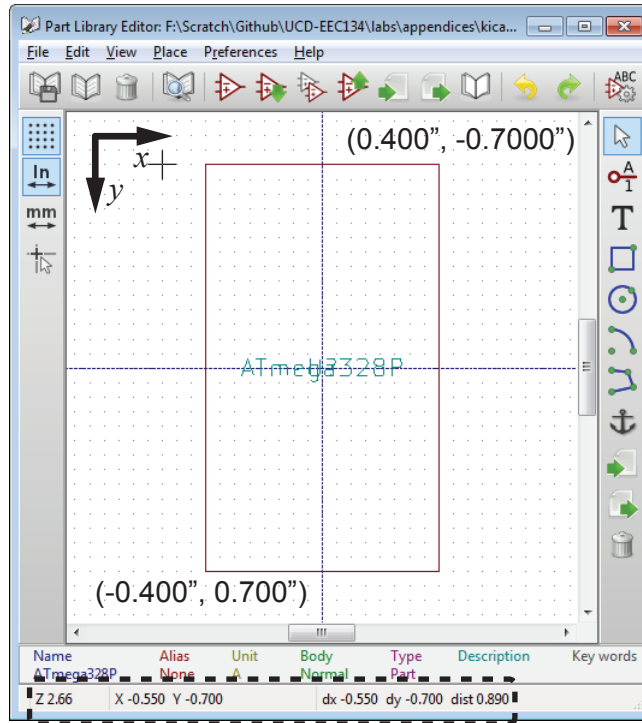

Figure 11: Drawing a rectangle in the library editor main window with the help of the built-in coordinate system.
6. Click the “Add graphic rectangle to the component body” button , and use the mouse cursor to draw a rectangle from  $(x = -0.400'', y = 0.700'')$  to  $(0.400'', -0.700'')$  (Fig. 11). The current position of the cursor is displayed at the bottom of the main window. Notice that the positive direction of the  $y$ -axis points downward.